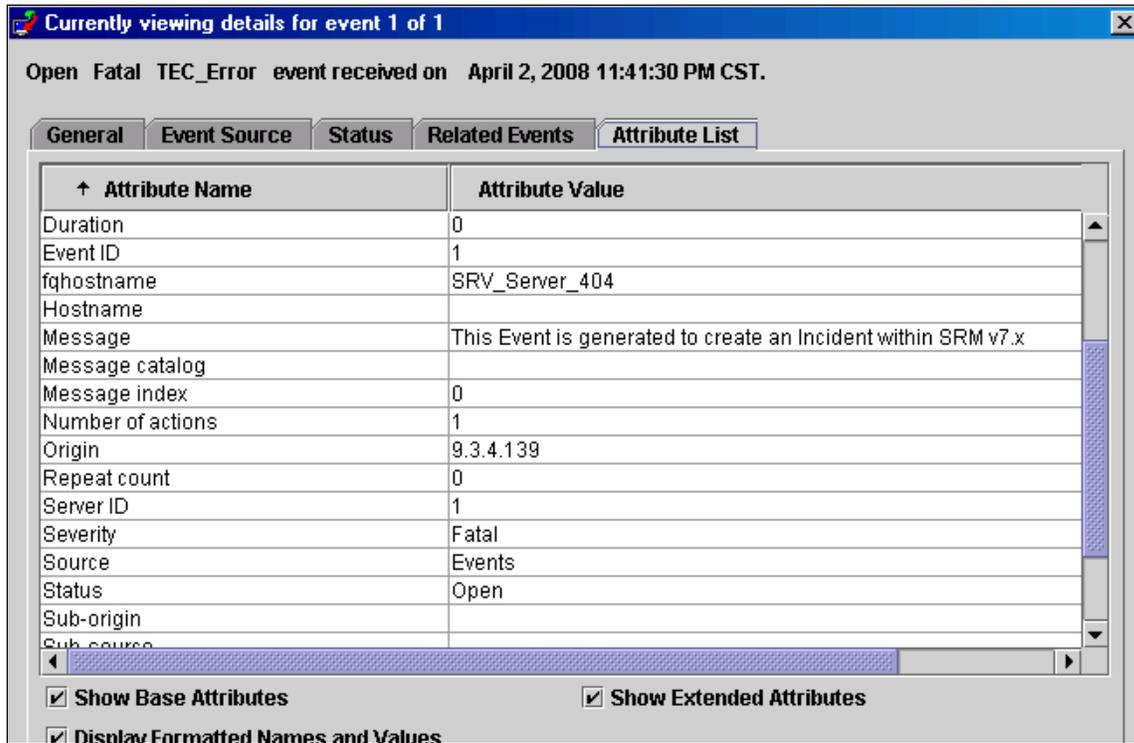

Figure 3-8 Event with severity "Fatal"
3. Log on to TEC, and validate the creation of the event specified in the previous step, as shown in Figure 3-8 on page 127.